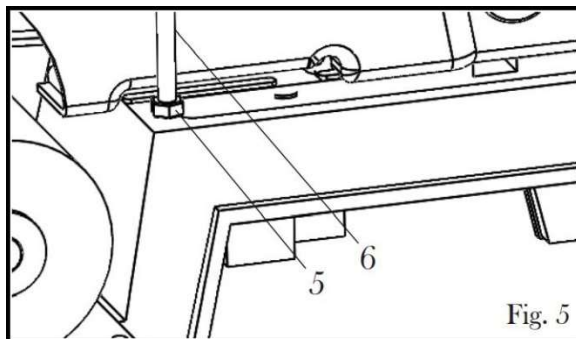

Figure 5
3. Now loosen the locking nut (5) on the table adjustment screw (6) located under the table by turning it counter-clockwise. Lower the table adjustment screw by turning it clockwise. (See Figure 5)
6. Now tighten the table adjusting screw located under the table (6) until the top of the screw touches the bottom of the table. (see figure 5)